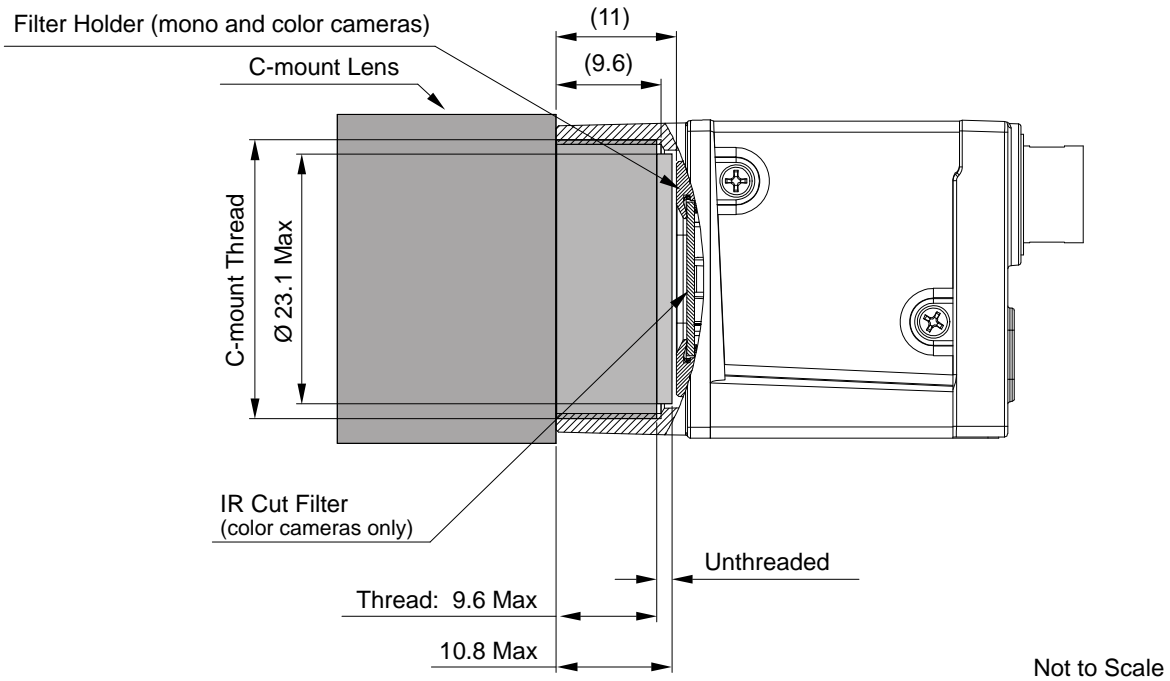

Fig. 27: Maximum Lens Thread Length (Dimensions in mm) for Cameras with the C-mount
- Camera with C-mount (see Figure 27):